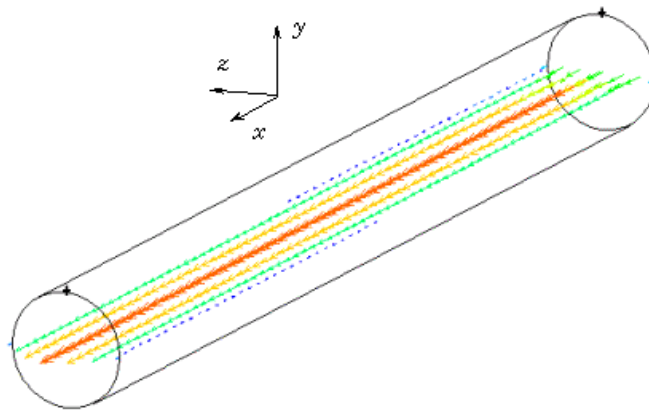

Figure 9.9.1: Velocity Vector Plot on a Plane
Figure 9.9.1 shows a velocity vector plot for a model in which fluid flows through a section of straight pipe. The velocity magnitudes are represented by the vector colors and by the lengths of the vectors. The velocity directions are represented by the direction of the displayed vectors.
The vector plot shown in Figure 9.9.1 represents the **Halfspace (0)** option on the **Create Plane Object** panel. Therefore, only those vectors with origins intersecting the cutting plane are displayed.
For example, in Figure 9.9.1, above, the vectors displayed near the centerline of the pipe are dark orange (corresponding to a high magnitude), and the vectors near the pipe walls are green or blue (corresponding to a low magnitude). In this case, the vector colors illustrate the fact that the velocity is higher near the center of the pipe than it is near the walls.
For example, if you specify Minimum and Maximum values of 0 and 1.25, respectively, for a velocity vector plot (Figure 9.9.1), FlowLab displays only those vectors that possess magnitudes between 0 and 1.25.
When you display a vector field on a **FlowLab** postprocessing object, the lengths of the displayed vectors (and sizes of any associated arrowheads) represent the local magnitudes of the specified degree of freedom. For example, in Figure 9.9.1, above, the displayed vector lengths and arrowhead sizes represent the local velocity magnitudes across the region of the pipe intersected by the cutting plane.
The **Components** options allow you to show the x , y , and/or z component vectors for all displayed vectors. For example, if you specify the x , y , and z **Components** options for the vector plot shown in Figure 9.9.1, **FlowLab** displays four vectors at each point of origin—the original velocity vector and its x , y , and/or z component vectors.